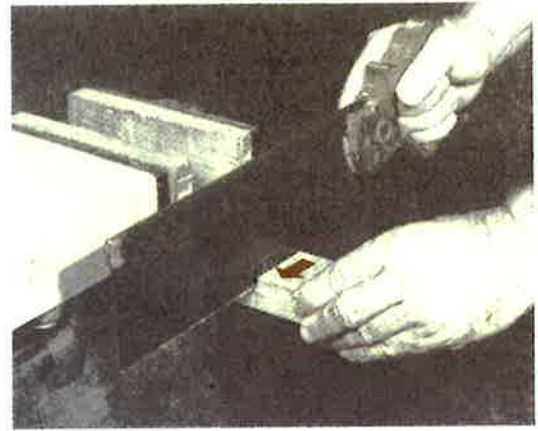
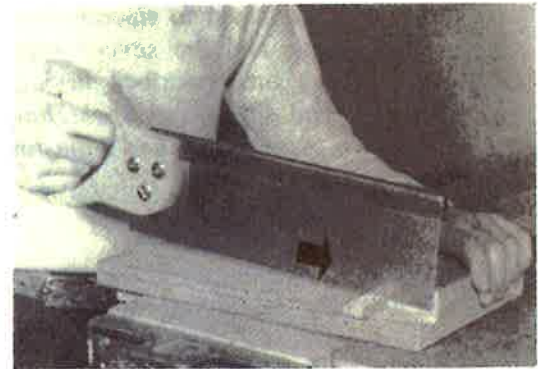

Fig. 8-19. Holding a board in a bench vise while cutting with a backsaw.
Fig. 8-20. Cutting a board with the backsaw on a bench hook.
2. Fasten the board in a vise (Fig. 8-19). You may also hold it firmly against a bench hook (Fig. 8-20).